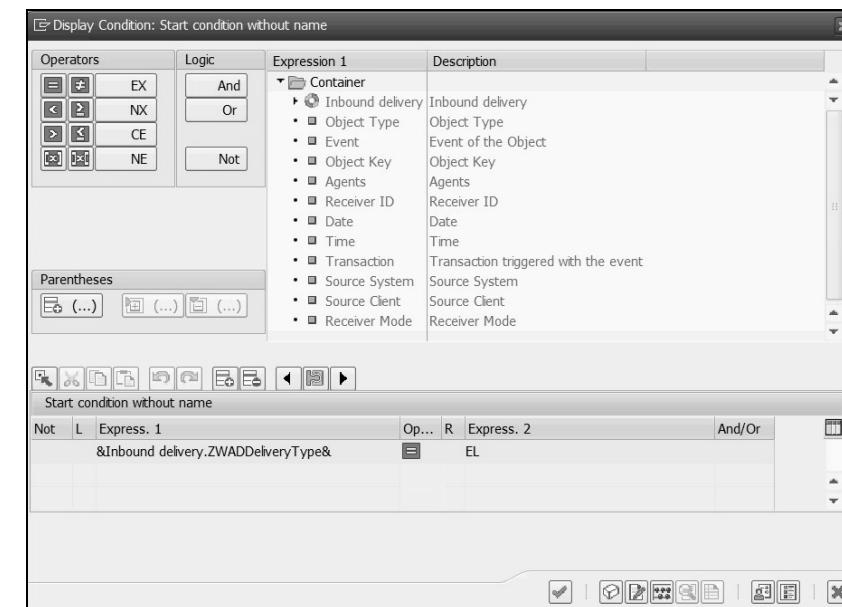

Figure 5.33 Maintaining the Start Condition Using the Condition Editor in Transaction SWB_COND
4. Click on the **Create** button on the toolbar, and then click on the selected event linkage. A popup screen will appear with the condition editor that allows you to create flexible start conditions. In the screen shown in Figure 5.33, enter the start condition per your requirement. (In this case, we're checking for delivery type = EL).